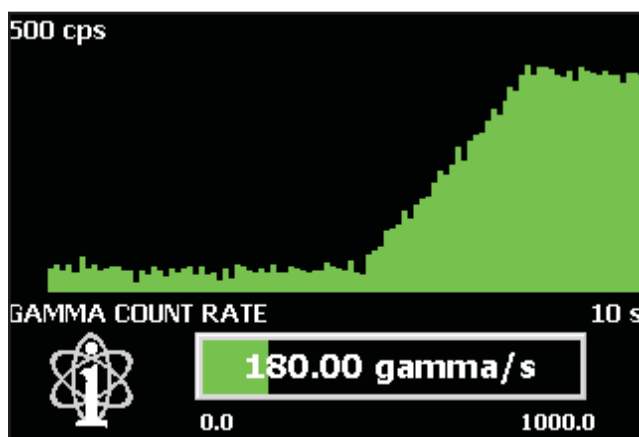

Figure 1 Locator Mode with Gamma Count Rate
The Locator Mode displays a real-time radiation histogram (Figure 1) showing the amount of radiation being detected.
- As you scan an area with the InSpector's probe, a change in the height of the histogram's bars (at the right of Figure 1) means the probe is pointing at a source of radiation.